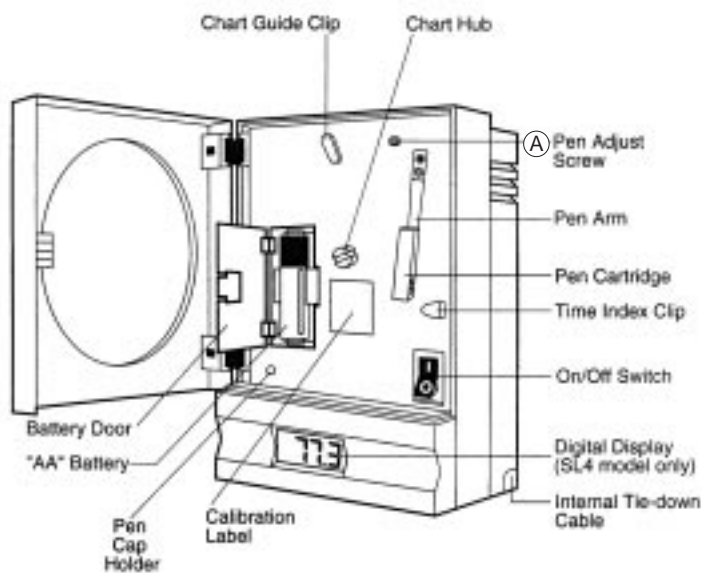

Figure 1
2. Turn the pen adjust screw (A) (Fig. 1) with a small screwdriver until the tip of the pen is directly over the correct temperature mark on the chart. Your chart recorder is now accurately set.